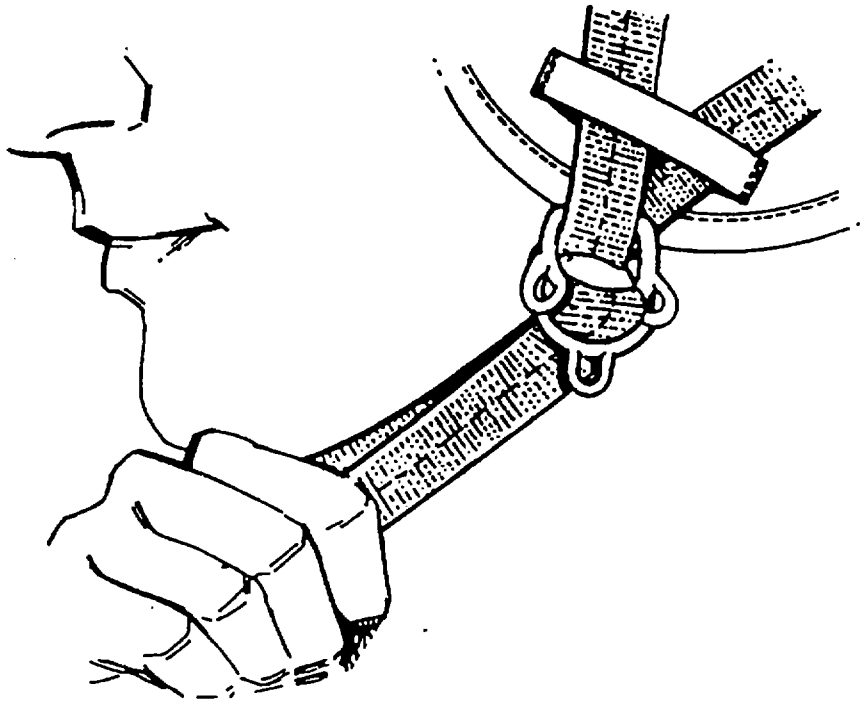

Figure 2-8. Fastening Chinstrap
(1) Fasten the chinstrap by inserting the strap through the D-rings, splitting the rings, and inserting the strap back through the inner D-ring.
(2) To tighten the chinstrap, pull it through the inner D-ring to attain the desired fit (Figure 2-8).
(3) To loosen the chinstrap, rotate the outer D-ring up and to the left by pulling on the two tabs of the outer D-ring. Pull the strap through the inner D-ring toward the left as needed to loosen or disengage the strap. If loosening, take up slack through D-rings by pulling the section of the strap under the chin to the right.